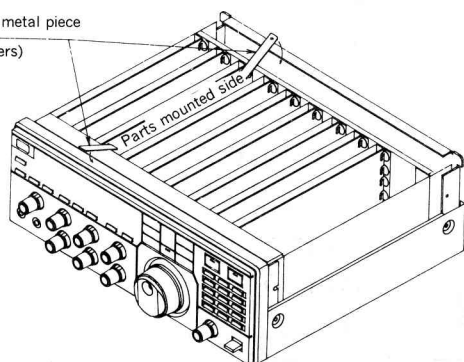

Fig. 9-2 Removing Unit
- (3) Remove the CPU unit CDC-353 as shown in Fig. 9-2.